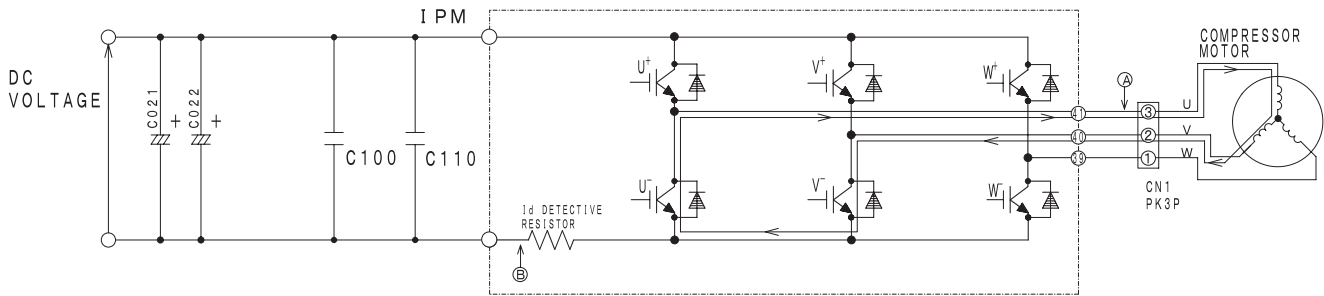

Fig. 4-4 Power module circuit (U+ is OFF, V- is ON)
At point ⑥: U+ is chopped (OFF), V- is ON (circuit in Fig. 4-4)
- (2) When U+ transistor is OFF: (by inductance of motor coil) U coil → V coil → V- transistor → U- diode → Point ④ (Fig. 4-4)